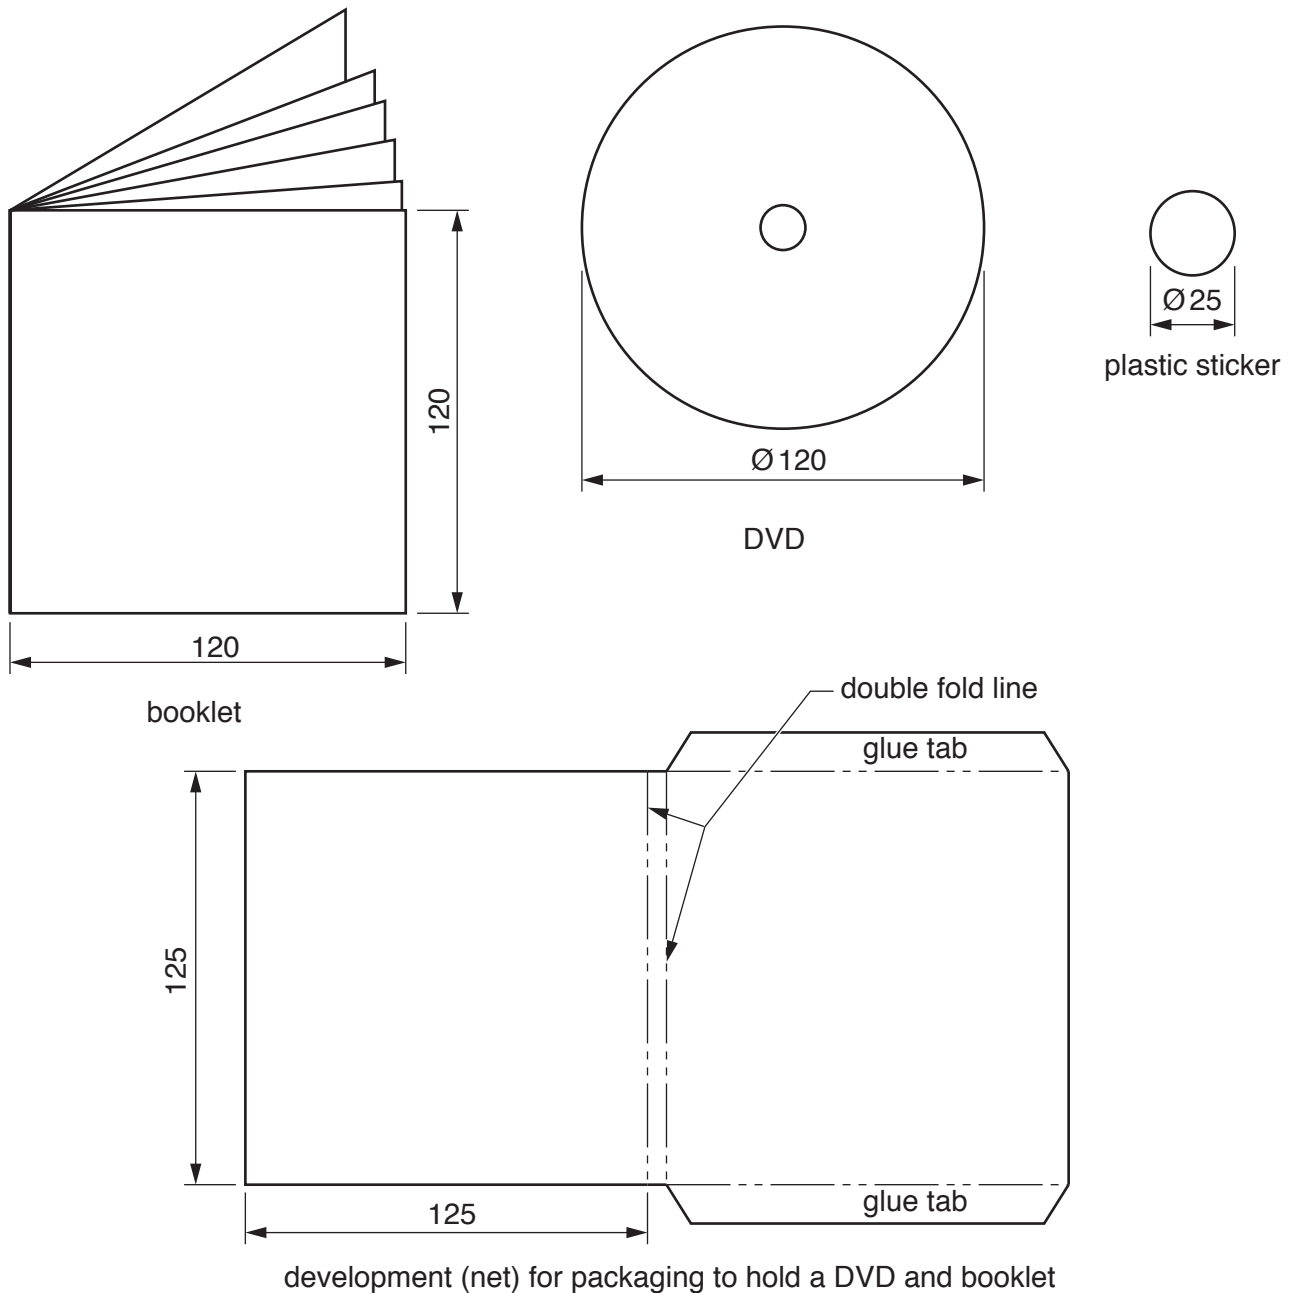

Fig. 5
- 5 Fig. 5 gives details about packaging, made from card, to hold the DVD and booklet shown. The plastic sticker keeps the packaging securely closed prior to purchase.